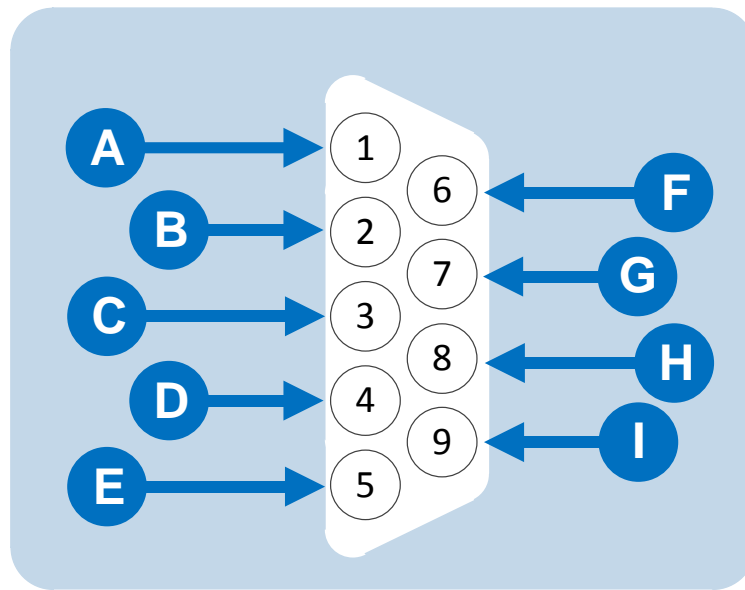

Figure 25: RLY-6 DB-9M connector pinout
For the pin assignment of these connectors as viewed from the frame side of the connector, see **Figure 25: RLY-6 DB-9M connector pinout**.
**Note:** In **Figure 25: RLY-6 DB-9M connector pinout**, the labels on the pins apply to either connector. For example, **#1/4 COM** refers to the wiper of **relay 1** if it is connected to **CH. A** and the wiper of **relay 4** if it is connected to **CH. B**.